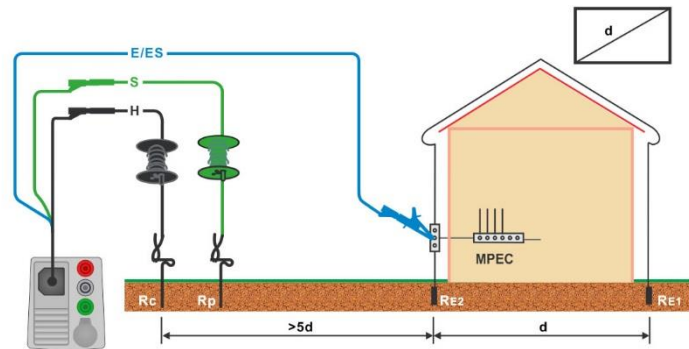

Figure 7.91: Resistance to earth, measurement of main installation earthing and lighting protection system
- ▶ Connect 3-wire test lead to the object under test, see *Figure 7.91*.